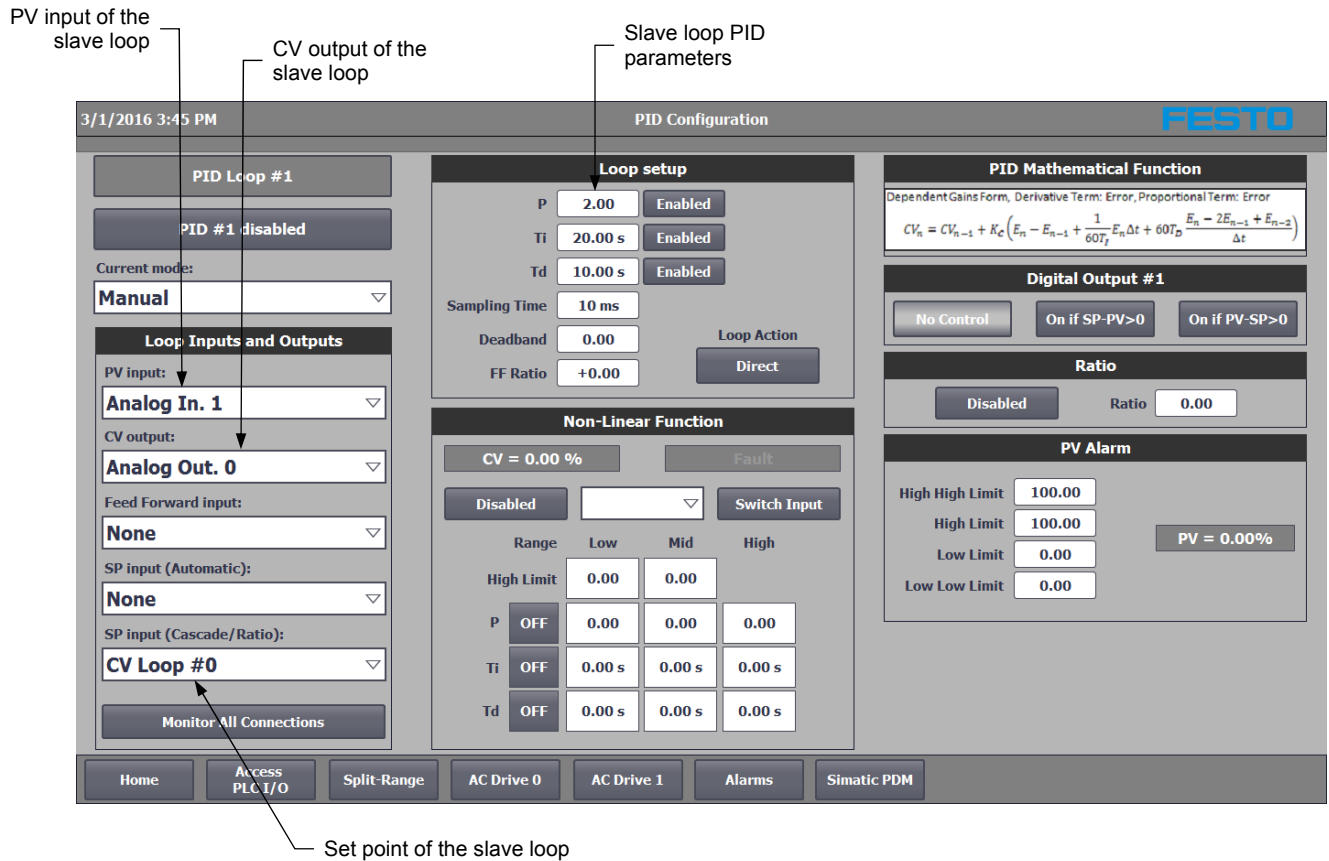

Figure 32. Slave loop configuration (loop #1).
- Set the **PID Configuration** of two control loops for cascade control as shown in the following figures. Figure 31 shows the master loop configuration; it uses analog input 0 to read the process level. The second loop is the slave loop; its configuration is shown in Figure 32 and it uses analog input 1 to read the process flow while analog output 0 is connected to the control valve. The master and slave loops should both be in *Manual* mode for now.